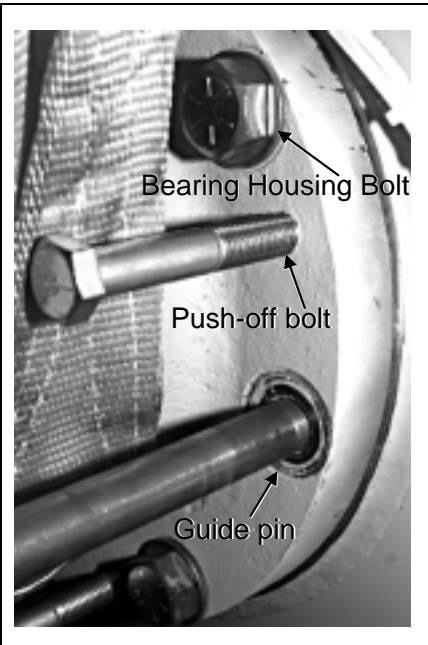

FIGURE 11 (MSSM0285AE)
3. Remove 4 equally spaced bearing housing bolts. Replace these bearing housing bolts with guide pins (FIGURE 11). The guide pins support the loosened bearing housing until it can be removed. Thread four bolts into the bearing push-off holes.